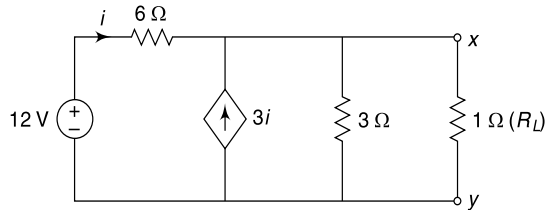

Fig. 4.154 Circuit of Ex. 4.123
4.123 Find the current through R_L in the circuit shown in Fig. 4.154 using Norton's theorem.